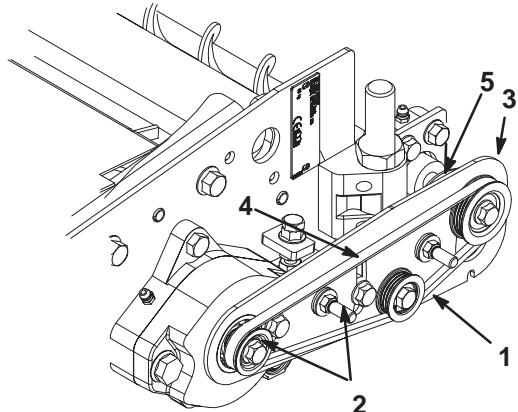

Figure 13
27. Install belt over pulleys (Fig. 13).
28. Using about 5 lbs of force, push down on rear end of pivot plate to initially set belt tension. Tighten 5/16" flange bolts securing pivot plate to main bearing housing and threaded spacer (1/2" wrench) (Fig. 13).
29. Check belt tension. Correct belt tension should have approximately 0.25" deflection at the center of the belt with 2 lbs of force applied (Fig. 13).
30. Adjust guard plate so that it covers main pivot plate hole and does not contact rear roller brush shaft (Fig. 13). Tighten bolt and flange nut securing guard plate.